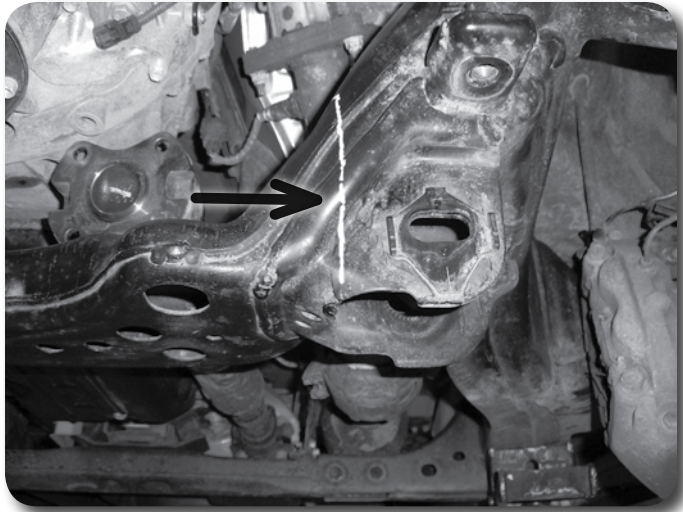
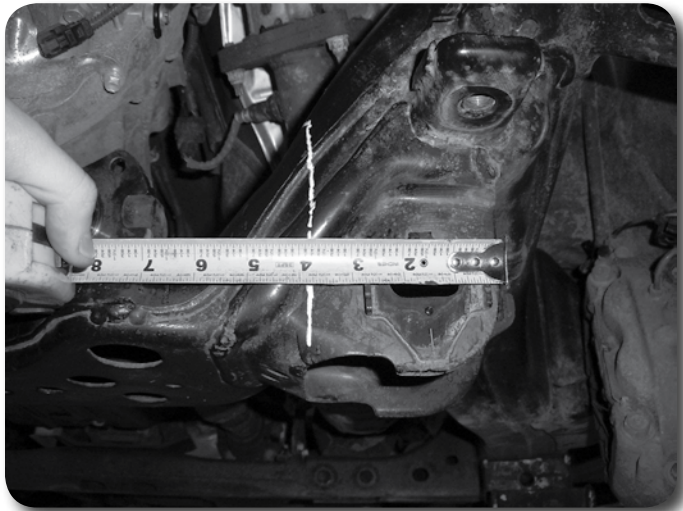
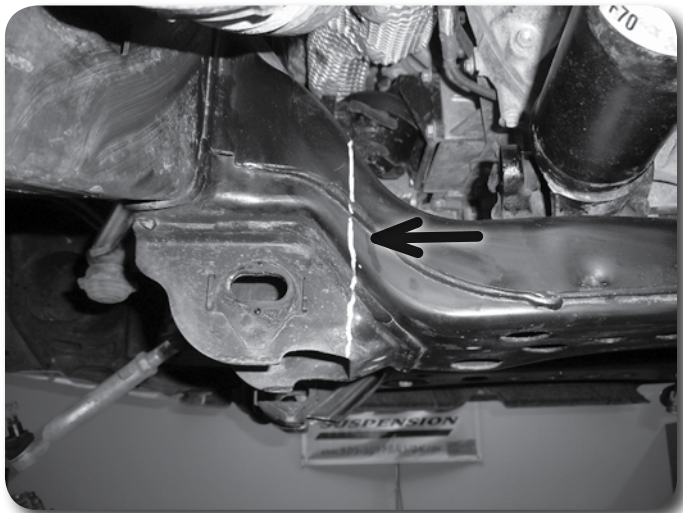

Figure 21A
Figure 21B
Figure 21C
27. In order to clear the differential in its new lower position the factory rear frame crossmember must be removed. On the driver's side make cut marks up the front and back faces of the crossmember that extend from the bottom inside edge of the control arm pocket **Figure 21A**. This line will be approximately 3-13/16" from the front outer control arm pocket edge **Figure 21B** and 3-3/8" from the inside of the frame on the back face **Figure 21C**. Connect the top of the two vertical cut lines along the top surface of the crossmember.